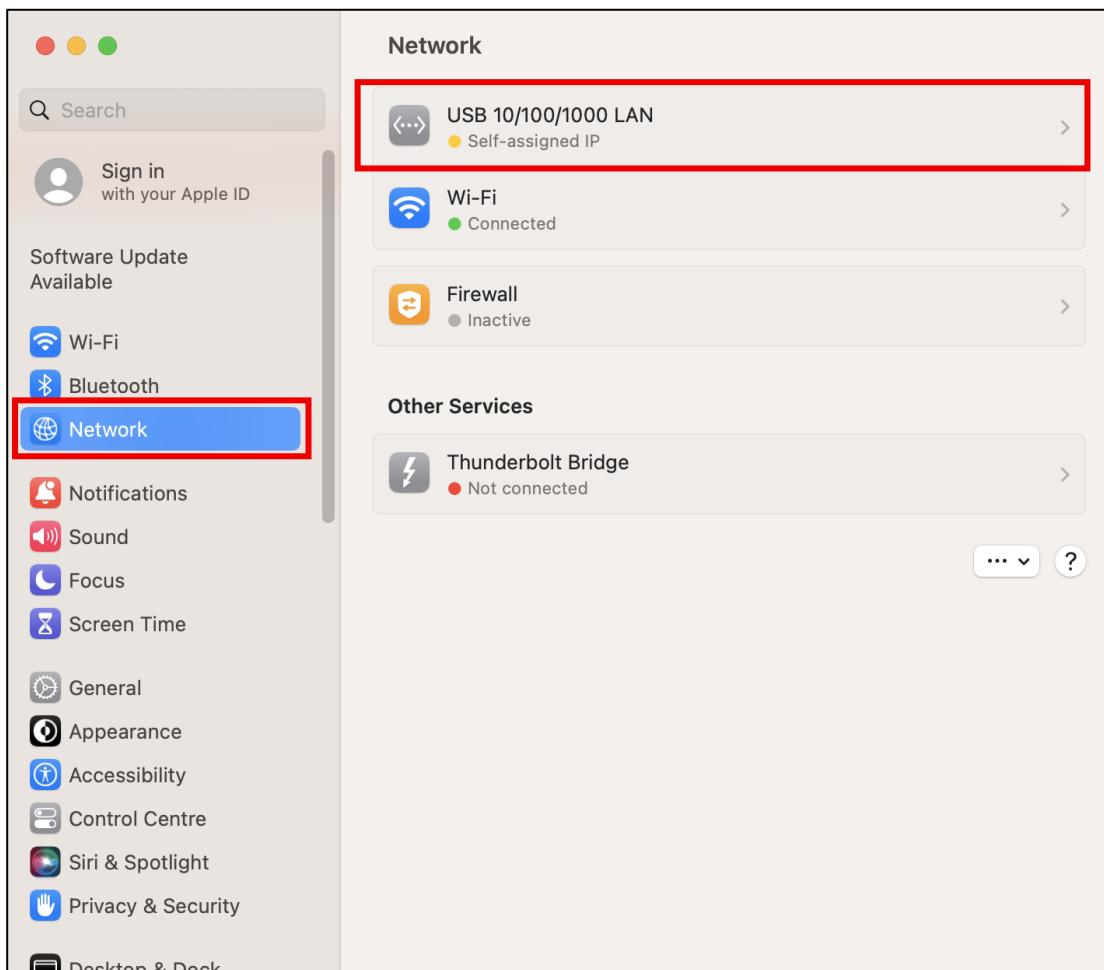

Figure 5: Network setting M1
- I) Go to Apple menu **Apple > System Settings**, click **Network**  in the sidebar, click a network service you want to edit, see Figure 5: Network setting M1.